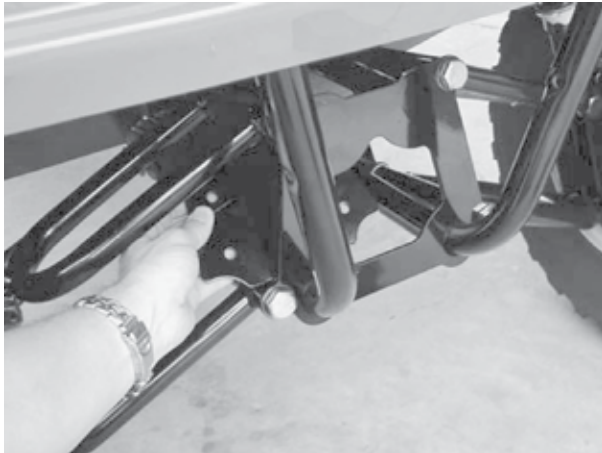

Fig. 1
- 2 Place the back plate on the back side of the suspension mount with the bolt holes visible through the large opening in the suspension plate as shown in figure 1.